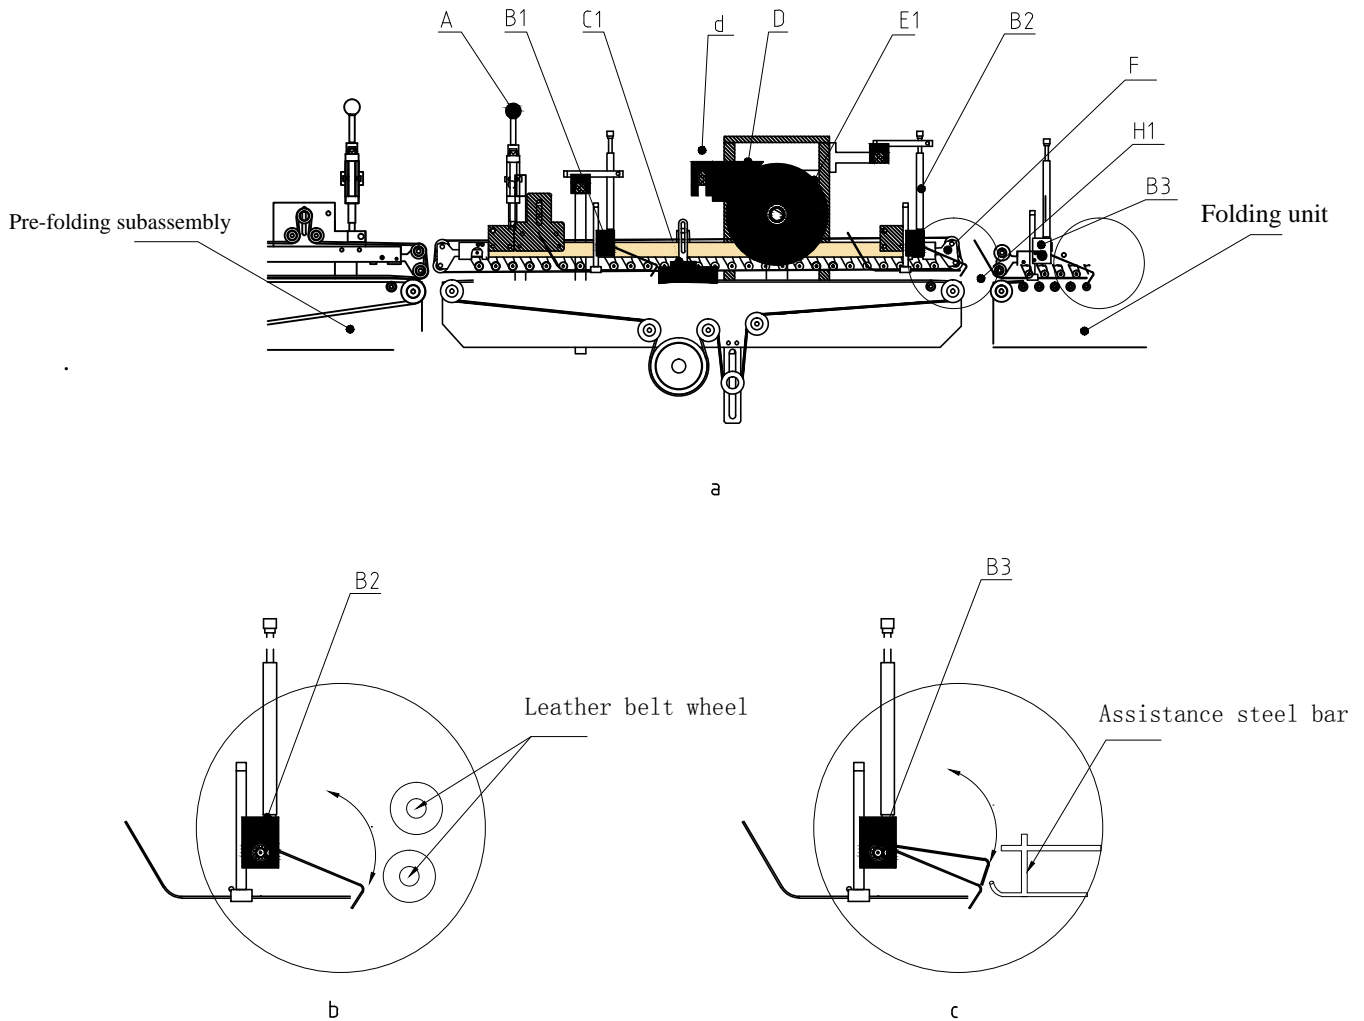

Fig 3-1
- ① The adjustment of base and upward clamping subassembly is the same with the pre-folding unit. Hooking mechanism subassembly, reverse folding subassembly and other auxiliary subassemblies are retained by clamping screw. Loosen all the clamping screws to adjust the desired position of each part, refer to Fig 3-1. The pasting wheel (E) in the Fig provide pasting to the bottom of paper box, glue bucket (D) is to store glue. Add appropriate amount of glue and then cover it with a cap to avoid the evaporation of glue. Adjusting screw of glue amount (d), turn to right to increase the glue amount, vice versa.